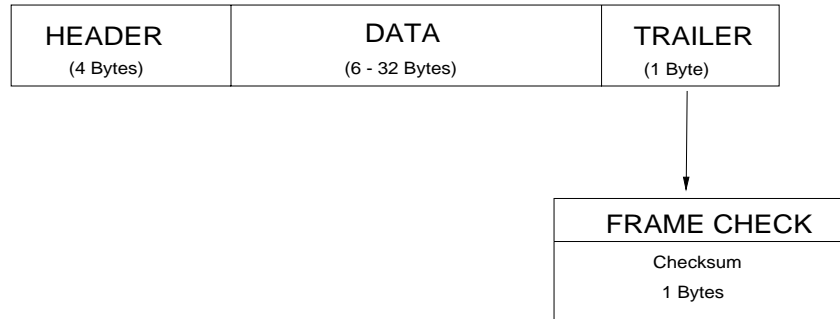

Figure 5-4: Trailer Sub-Packet
The trailer component contains only one (1) byte called the Frame Check Sequence (See Figure 5-4).